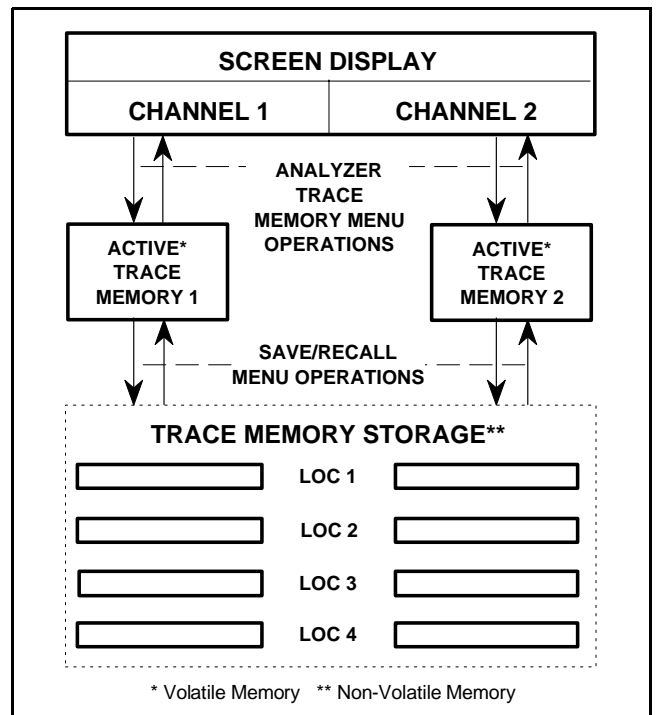

Figure 3-6. Trace Memory Storage Locations
The TRACE MEMORY and TRACE MEMORY STORAGE submenus allow two sets of measurement trace data to be stored to “active” trace memory (Figure 3-6). There is one memory for each display
To store measurement trace data to *non-volatile* trace memory locations (Figure 3-6) and to retrieve trace data previously stored in these memories, use the SAVE/RECALL key and menu functions, which are described in paragraph 3-12.2.
- Save or recall up to four sets of trace memory data for each display channel (Figure 3-6, page 3-9). The saved measurement trace data may include simple or complex limit line information.
There are two additional “active” trace memories that are accessed via the menus from the (NETWORK ANALYZER) MENU key. Refer to paragraph 3-10 and Figure 3-6.